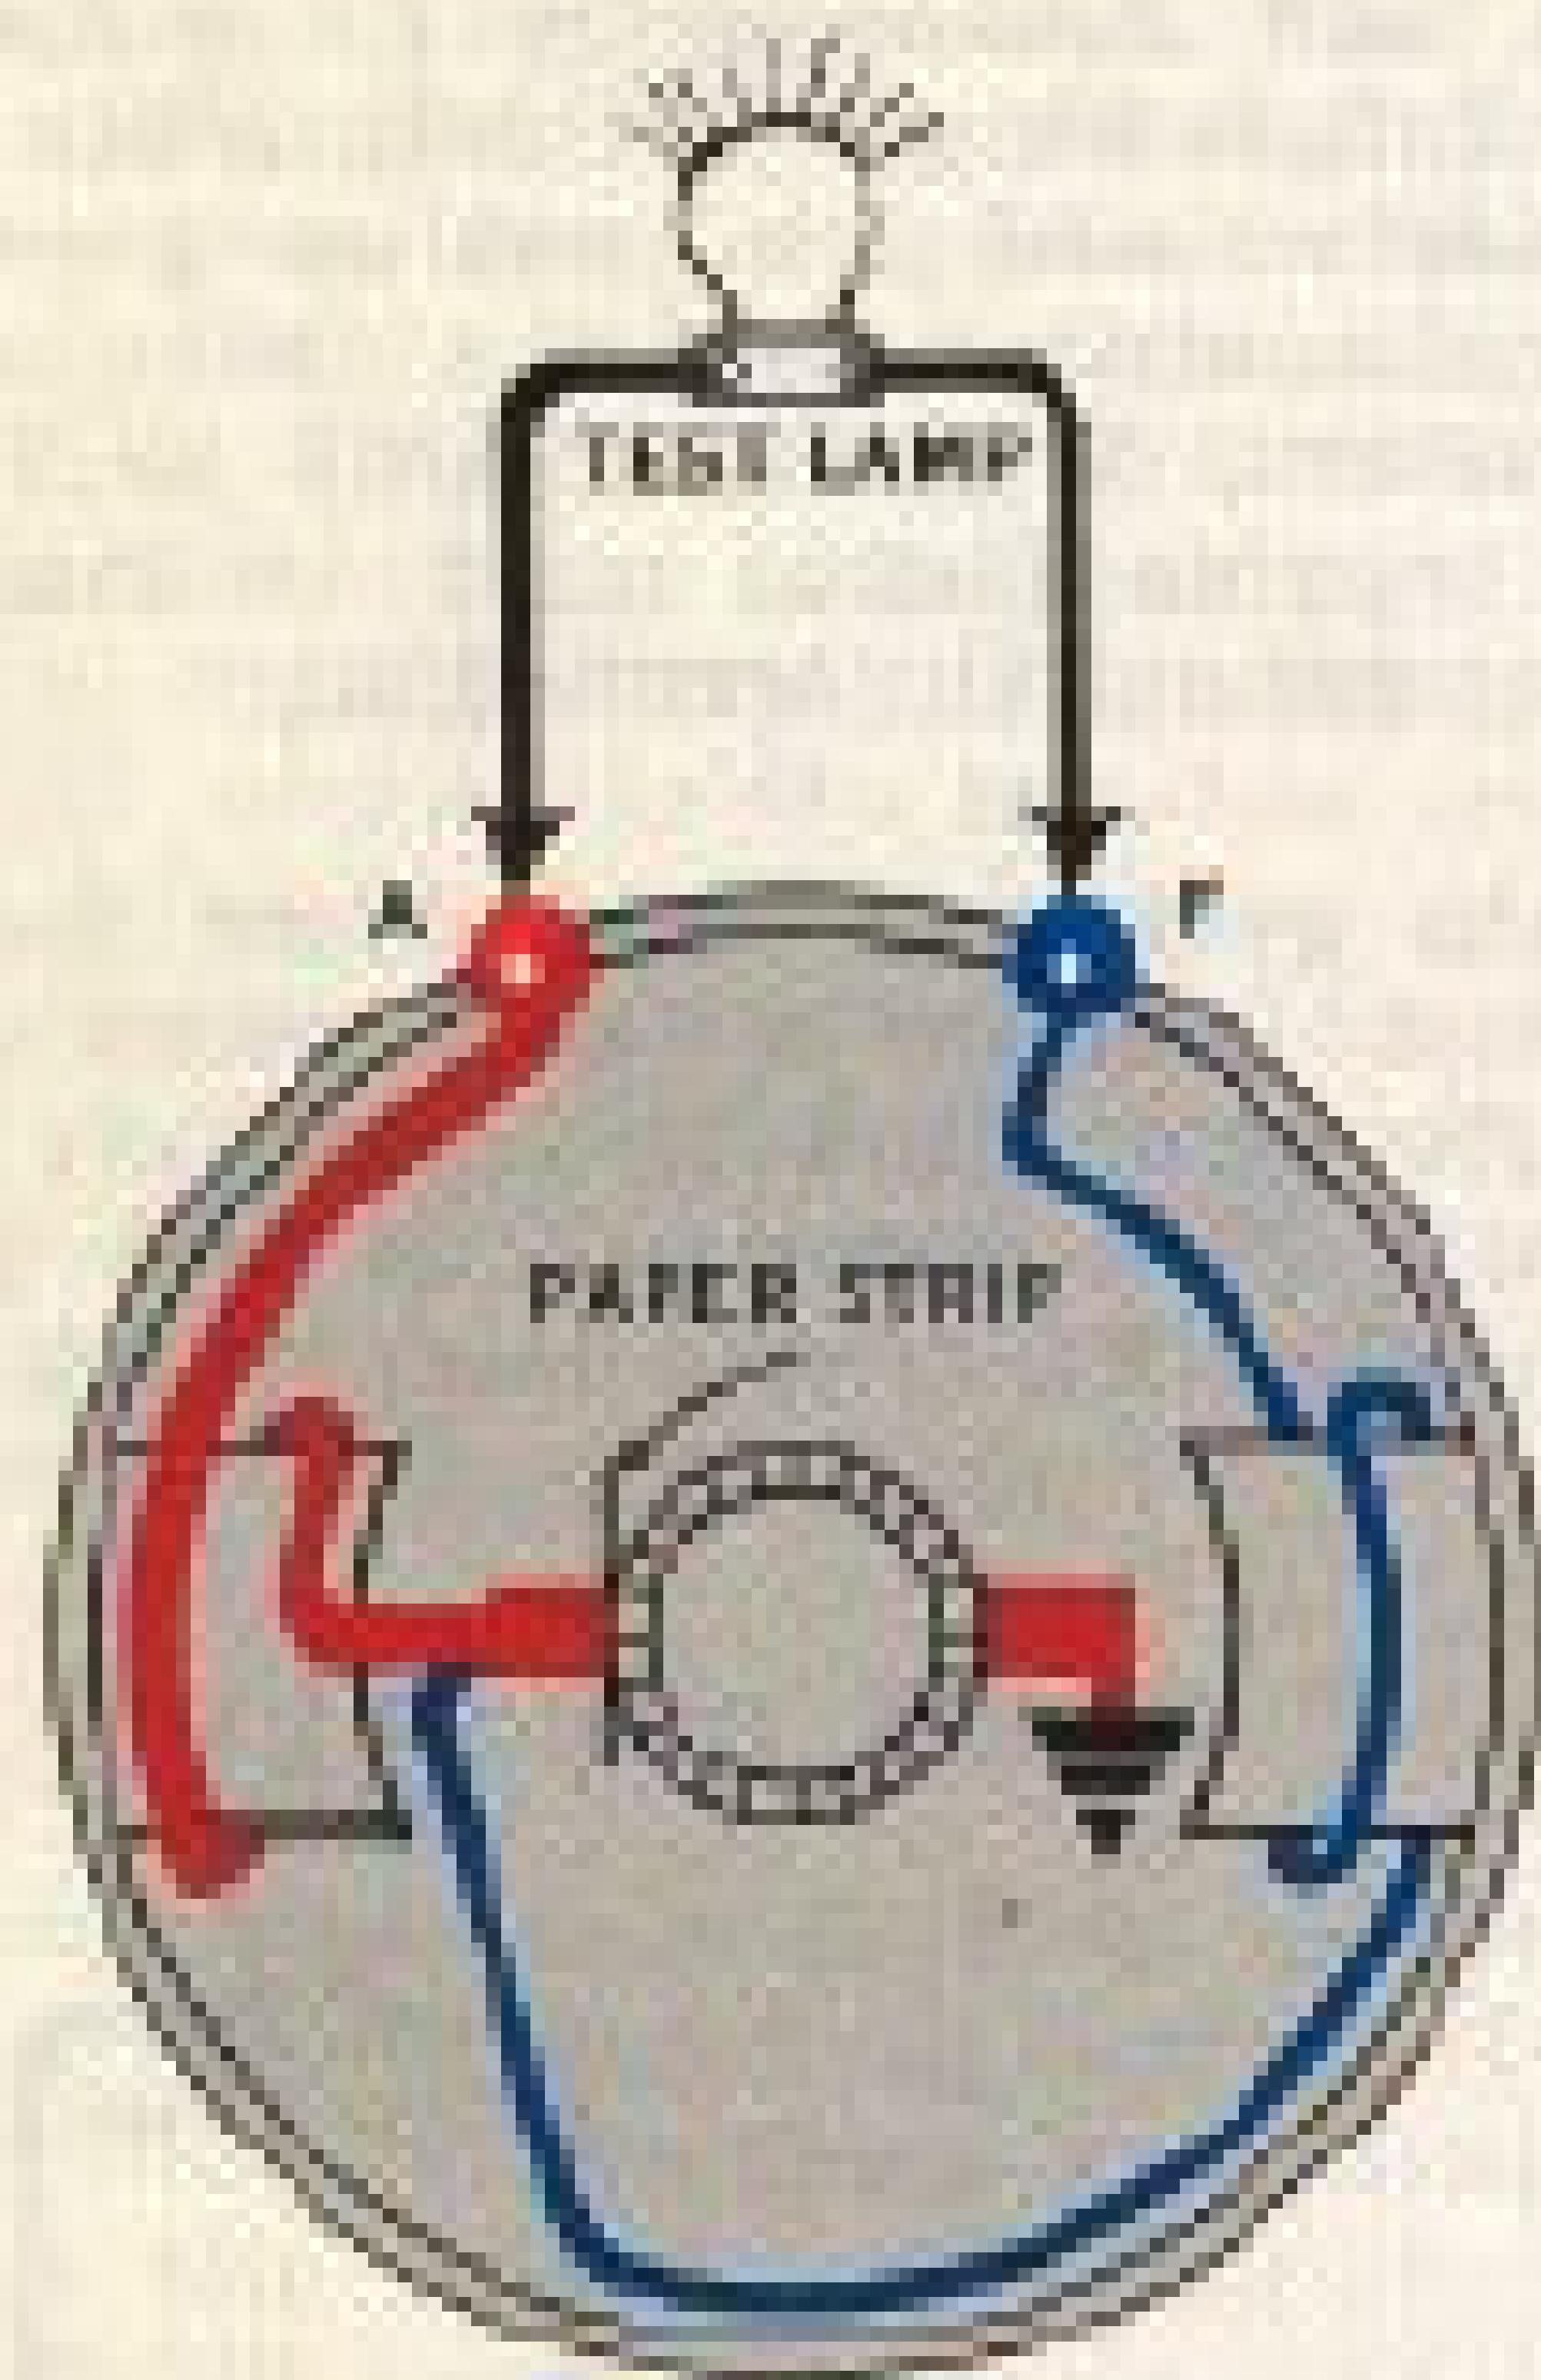

Figure 9—Check for open field coils. On three terminal motor-generators, connect from "F" terminal to "N" terminal with test lamp leads.
2. If the unit is not grounded, check the field for an open circuit (Fig. 9) with a test lamp. The lamp should light when one test point is placed on the field terminal and the other is placed on the armature terminal. On three terminal motor-generators connect test lamp from the field terminal to the motor terminal. (Paper strip between insulated brush and commutator.) If it does not light, the circuit is open. If the open is due to a broken lead or bad connection, it can be repaired but if the open is inside one of the field coils, the coil must be replaced.